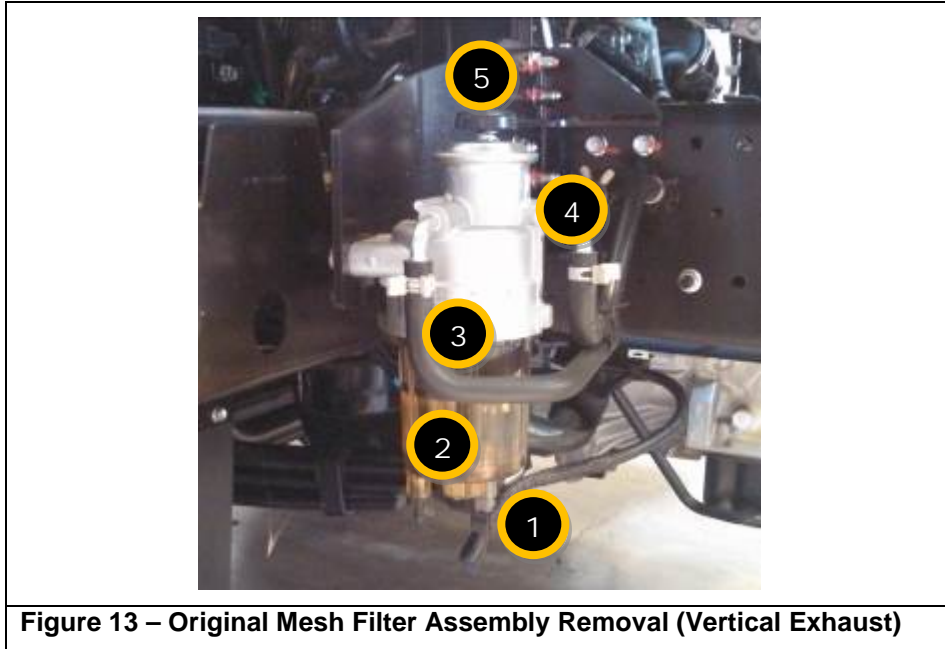

Figure 12 – Secure Harness Assembly
4. Remove and discard the old hose and clamps. Drain fuel as necessary. Install the new fuel hose to the filter assembly and clip into place with the new hose clamps at the (2) two points.
6. Secure the wiring harness with the new band clips/zip ties tucked against the sedimenter mounting bracket (see Figure 12).